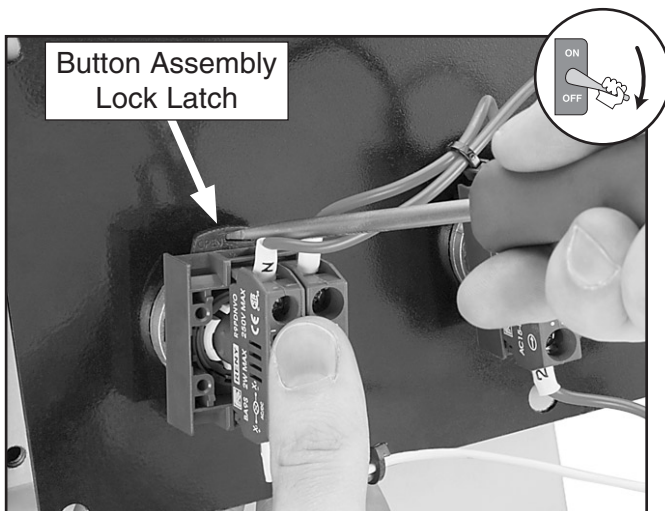

Figure 7. Accessing the light bulb from the rear of the control panel.
2. Remove the control panel from the electrical pedestal to access the rear of the power lamp and ON button assemblies (see **Figure 7**).
3. Use a small, flat screwdriver to move the power lamp assembly lock latch to the left, as shown in **Figure 7**, pull the assembly loose from the panel, then replace the light bulb.